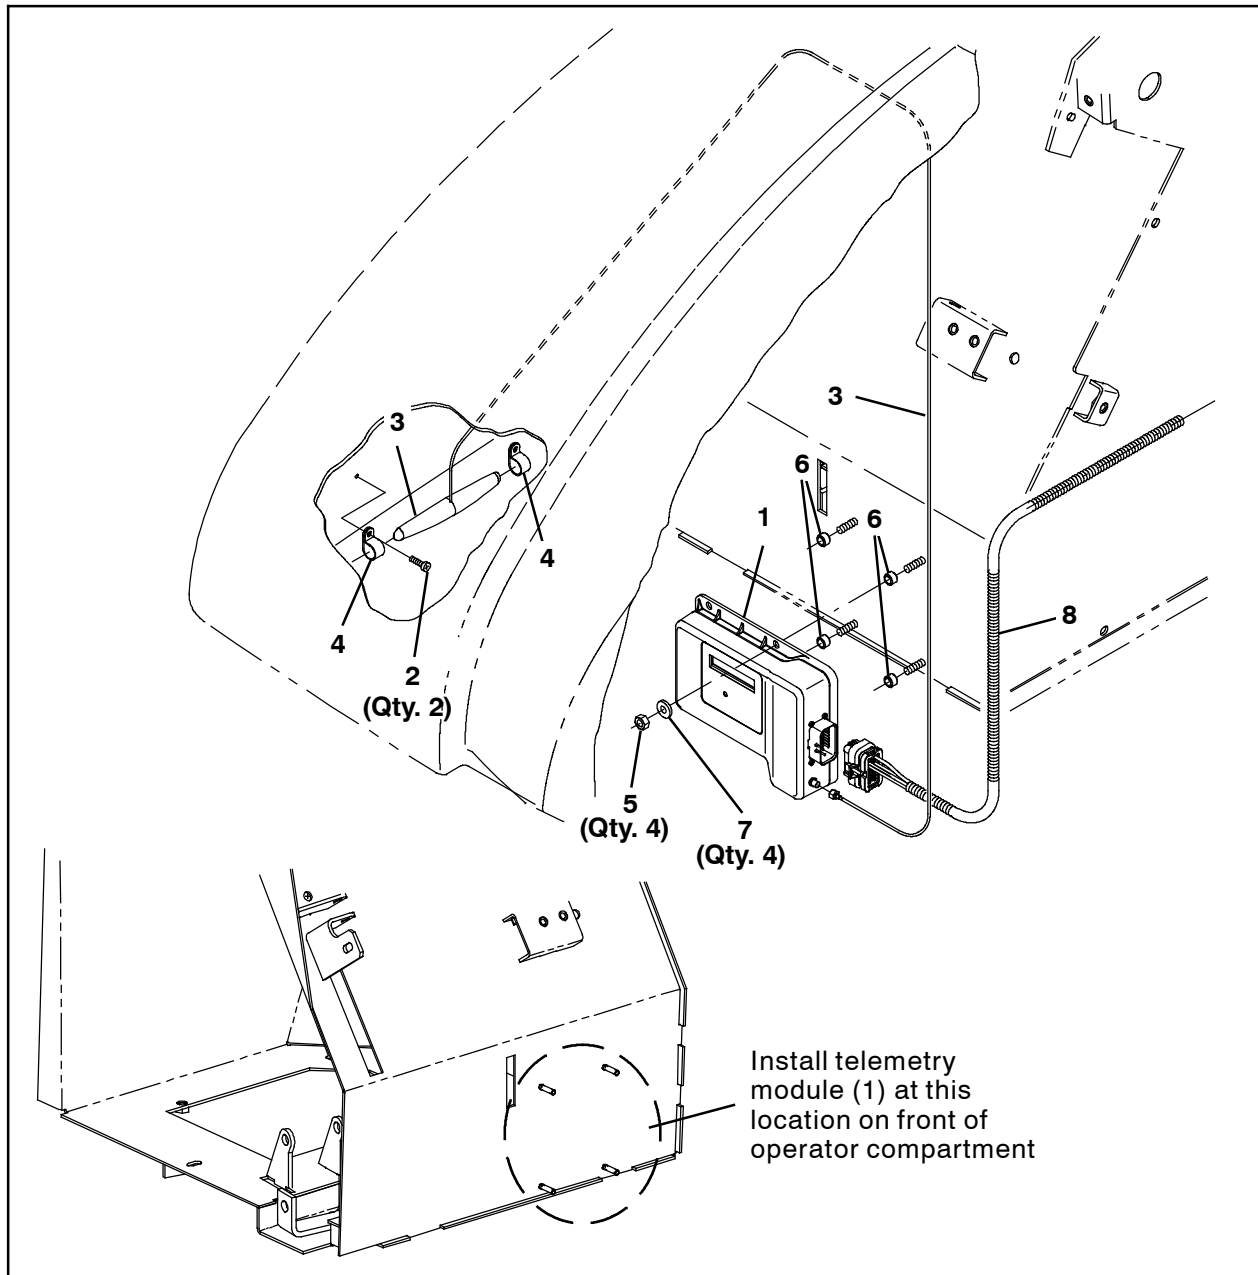
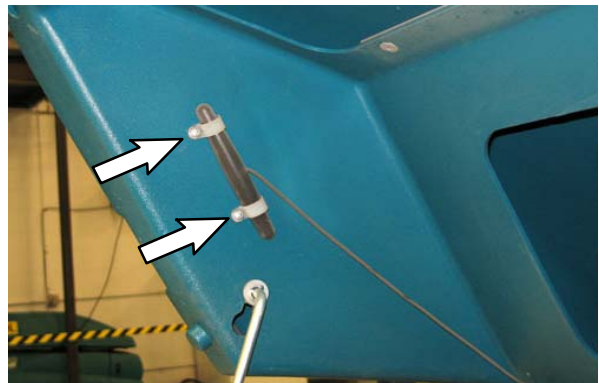
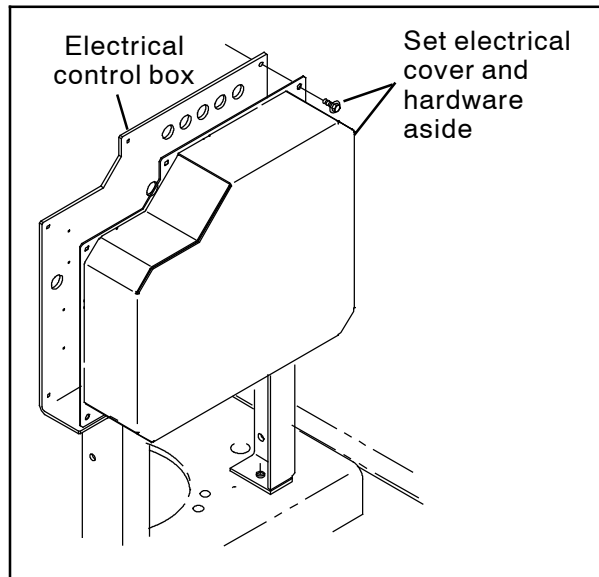
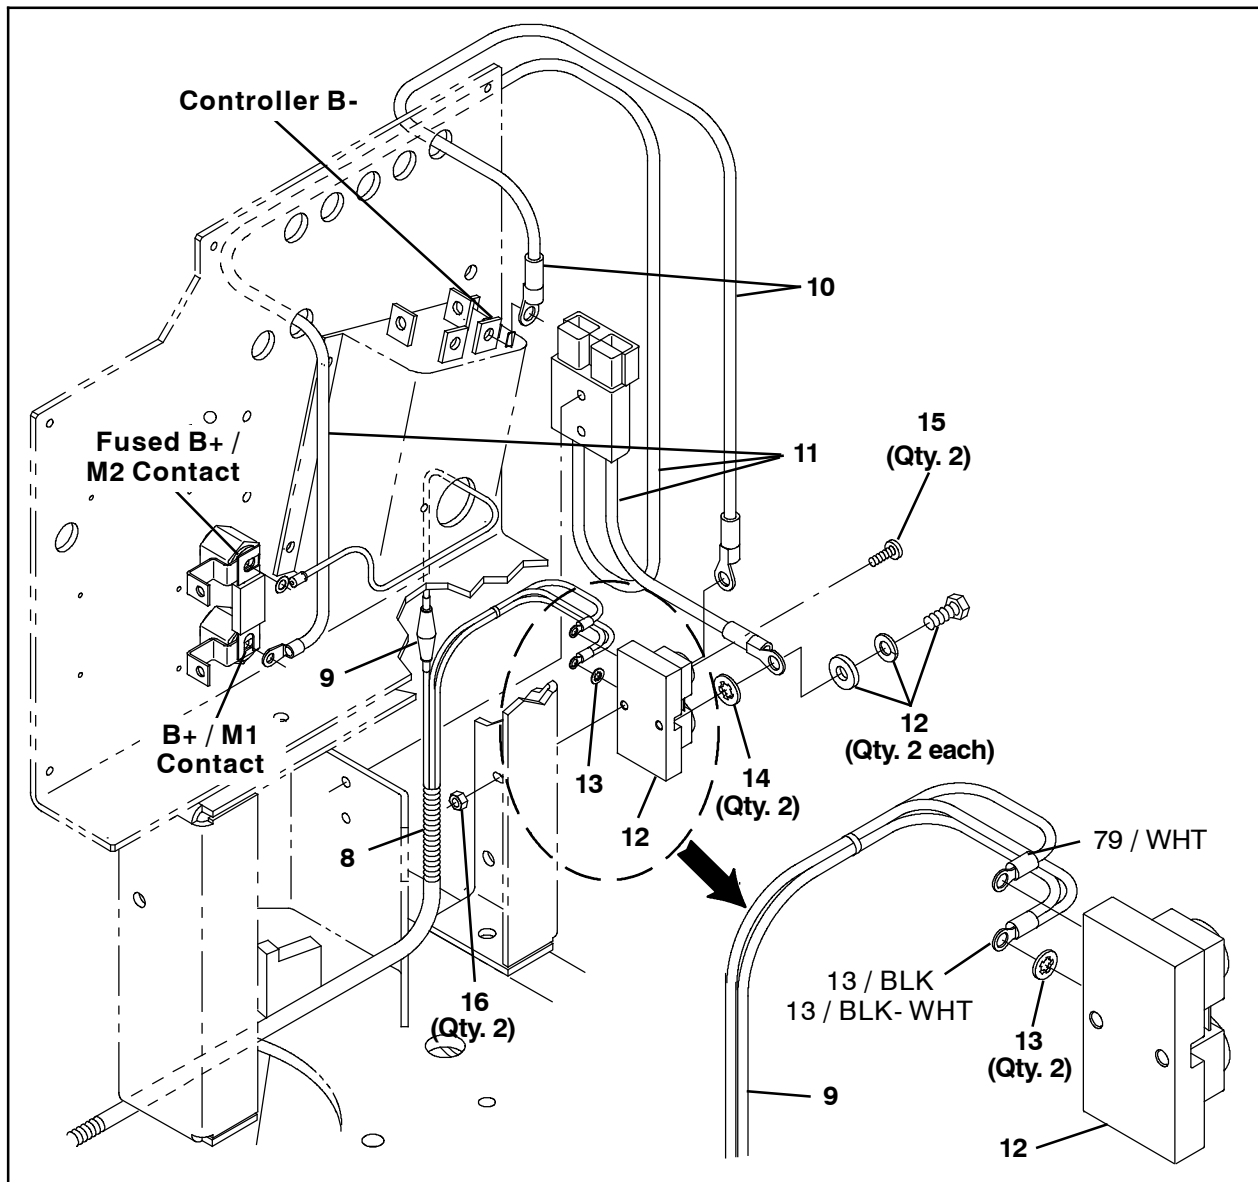

FIG. 1
FIG. 2
FIG. 5
FIG. 6
2. Drill two 1/8 in. (3.1750 mm) holes through the inner surface of the front shroud. **Do Not** drill into the front surface of the front shroud. (Fig. 1)
3. Use two pan screws (2) and two cable clamps (4) to install the antenna (3) onto the front shroud. (Fig. 1 / Fig. 2)
8. Use four M6 hex nuts (5), four flat washers (7), and four sleeves (6) to install the telemetry module (1) onto the front of the operator compartment. (Fig. 1)
9. Connect the antenna (3) cable to the telemetry module (1). (Fig. 1)
11. Connect the telemetry harness (8) to the telemetry module (1). (Fig. 1 / Fig. 6)
12. Route the telemetry harness (8) to the electrical control box.
13. Remove the electrical cover from the electrical control box. Set the electrical cover and all removed hardware aside. (Fig. 5)
14. Use two M5 pan screws (15) and two M5 hex nuts to install the shunt (12) onto the leg of the electrical control box. (Fig. 6)
15. Remove the battery cable attached to controller B- and the B+ stand off. Set the removed hardware aside. Discard the removed battery cable. (Fig. 6 / Fig. 9)
16. Use hardware included with the shunt (12) and one lock washer (14) to connect the battery cable (11) black cable to the shunt. (Fig. 6 / Fig. 10)
17. Route the battery cable (11) red cable through the back of the electrical control box, to the B+ stand off, and connect the red cable to the B+ stand off. (Fig. 6 / Fig. 9)
18. Use hardware included with the shunt (12) and one lock washer (14) to connect the black cable (10) to the shunt (12). (Fig. 6 / Fig. 10)
19. Route the black cable (10) through the back of the electrical control box (location B-), to the controller, and connect the black cable to the controller B- terminal. (Fig. 6 / Fig. 9)
20. Connect the telemetry harness (8) to the fused B+ M2 stand off. (Fig. 6 / Fig. 9 / Fig. 10)
21. Connect the telemetry harness (8) 13 / BLK 13 / BLK - WHT wire to the shunt (12). (Fig. 6 / Fig. 10)
22. Connect the telemetry harness (8) 79 / WHT wire to the shunt (12). (Fig. 6 / Fig. 10)